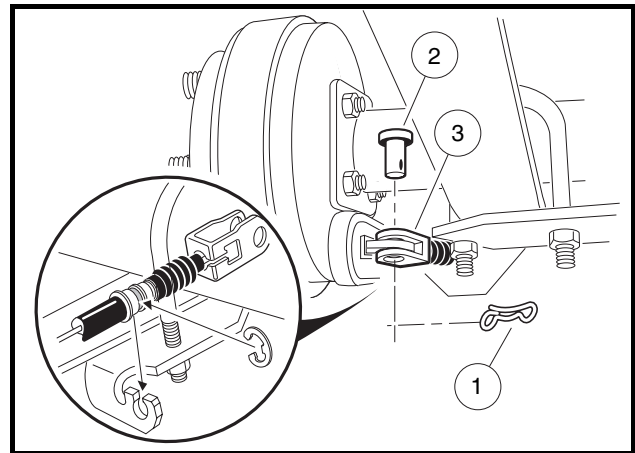
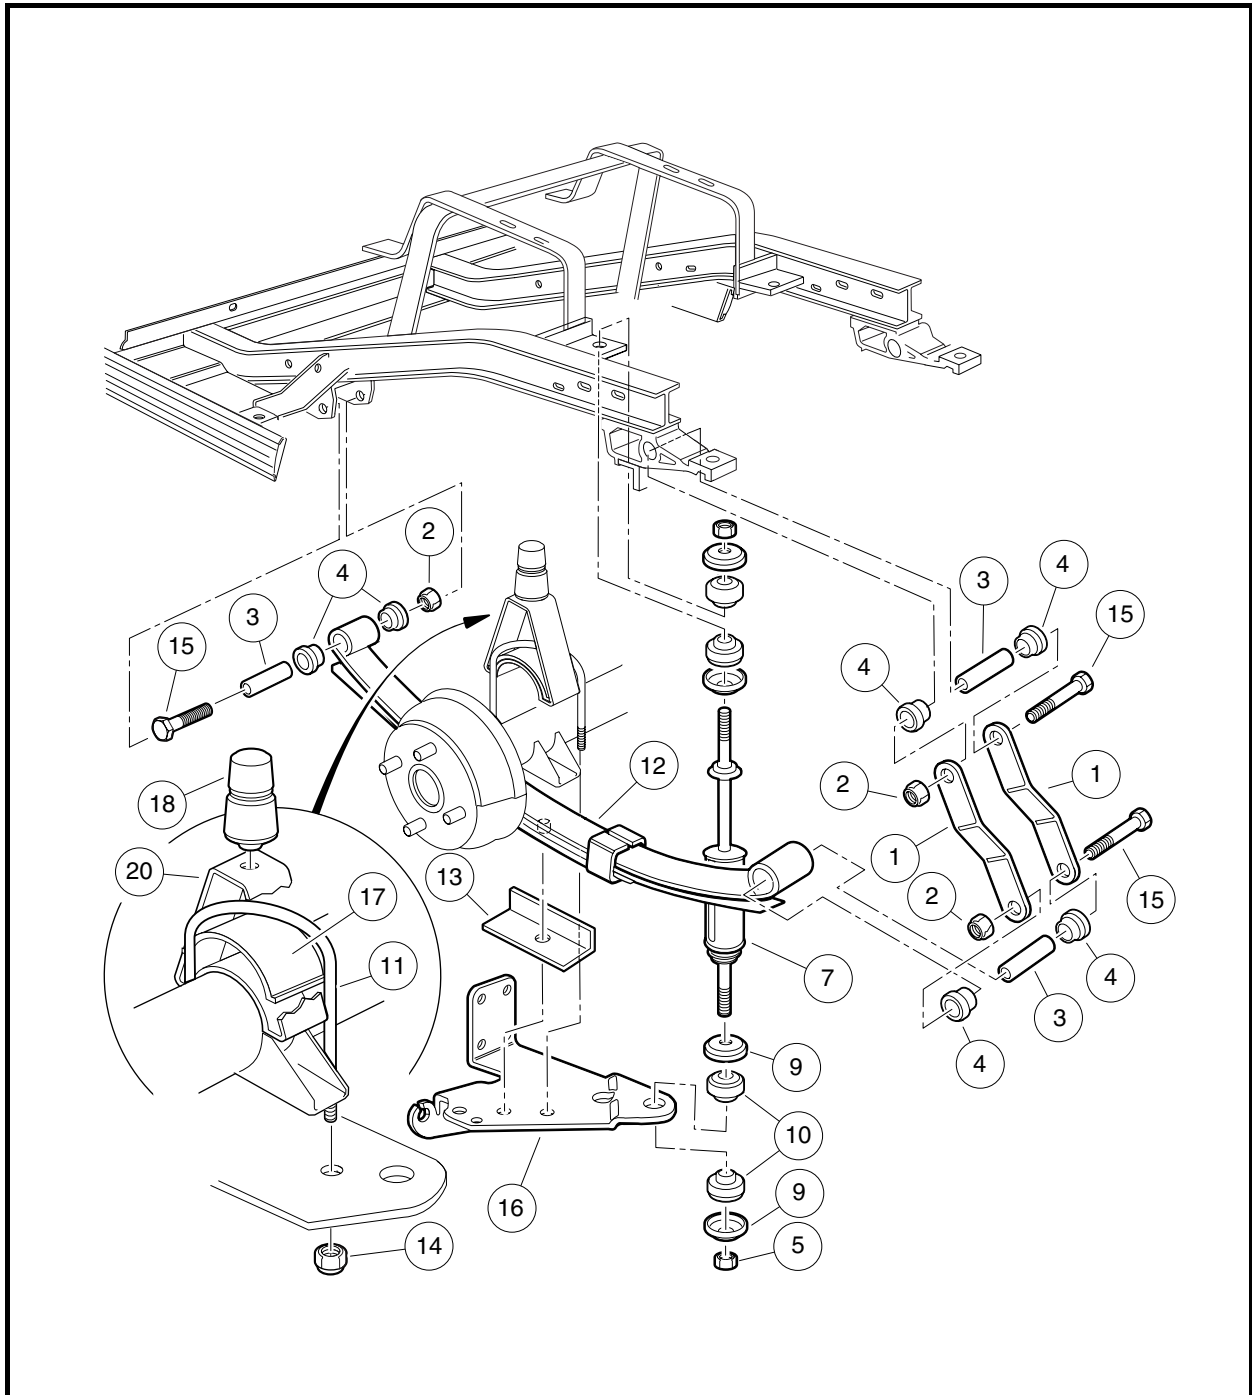
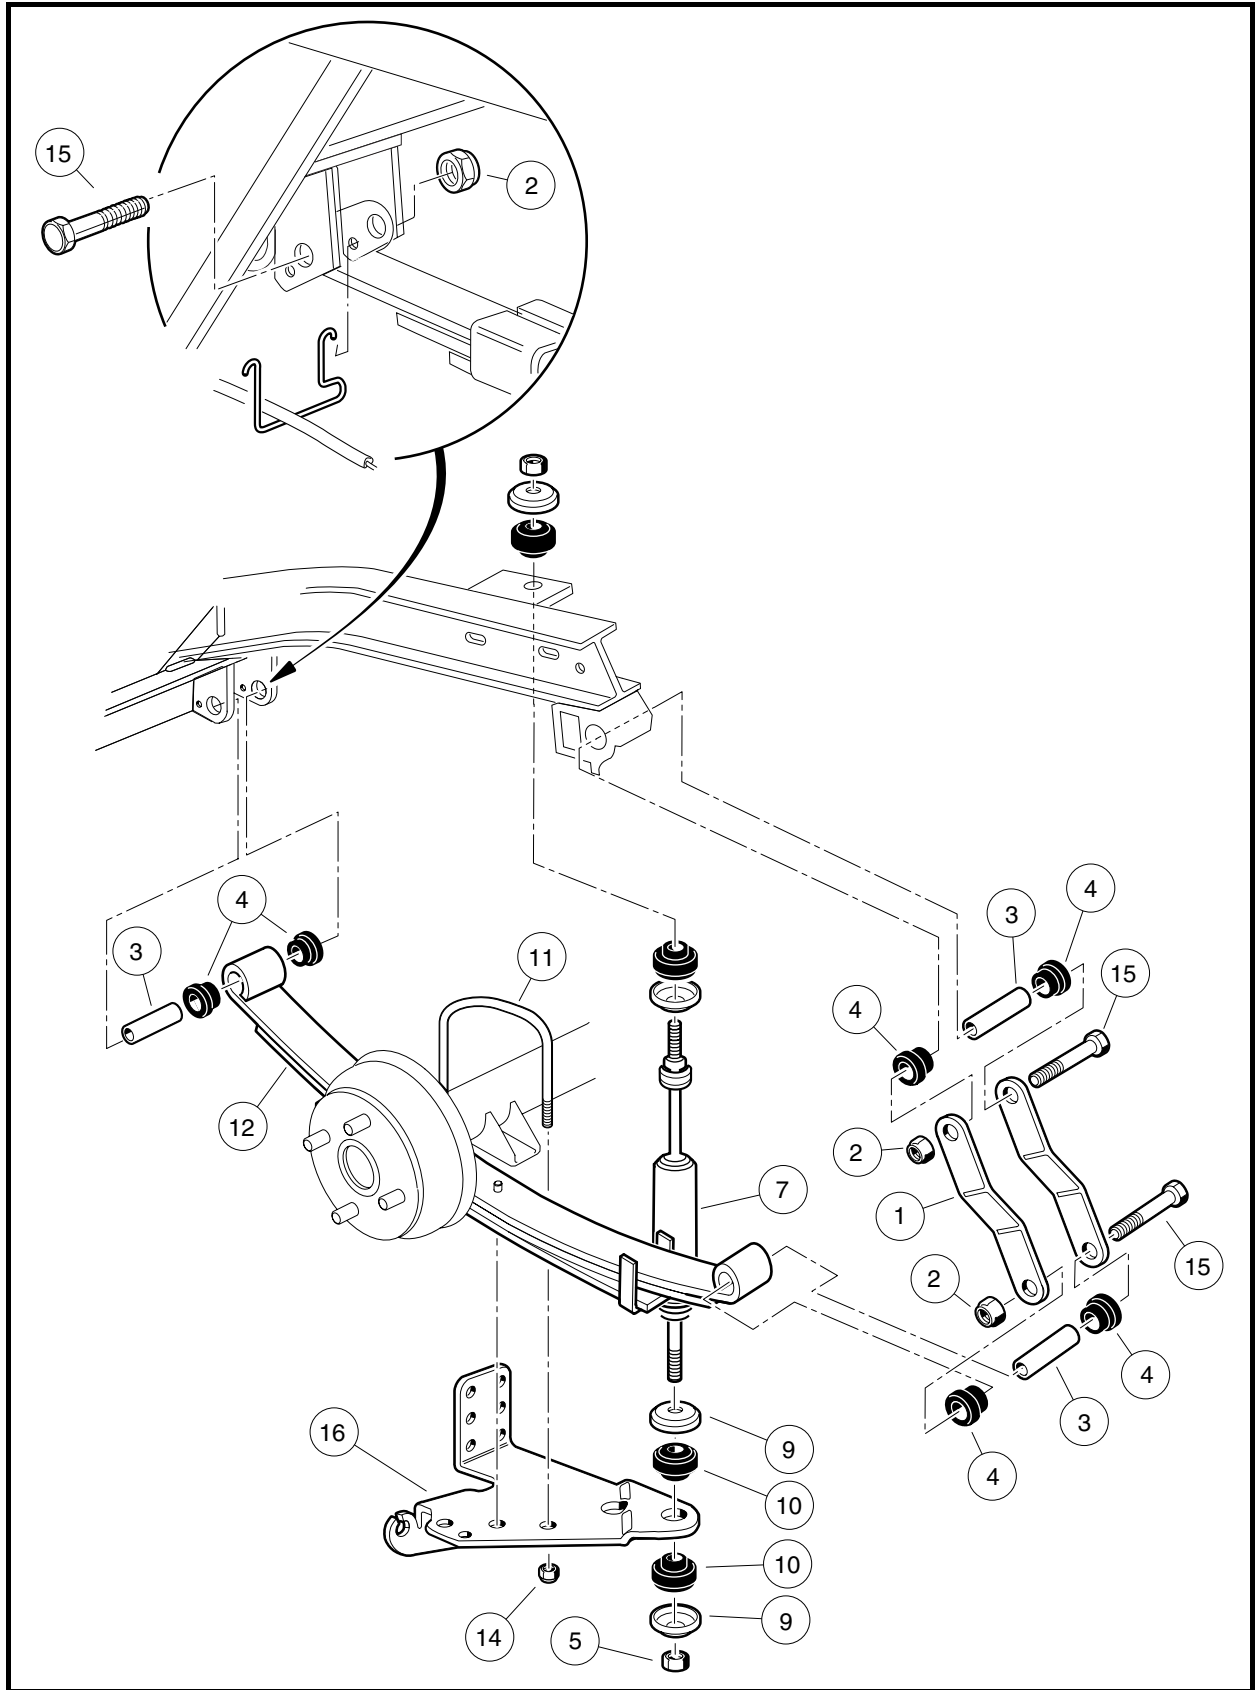
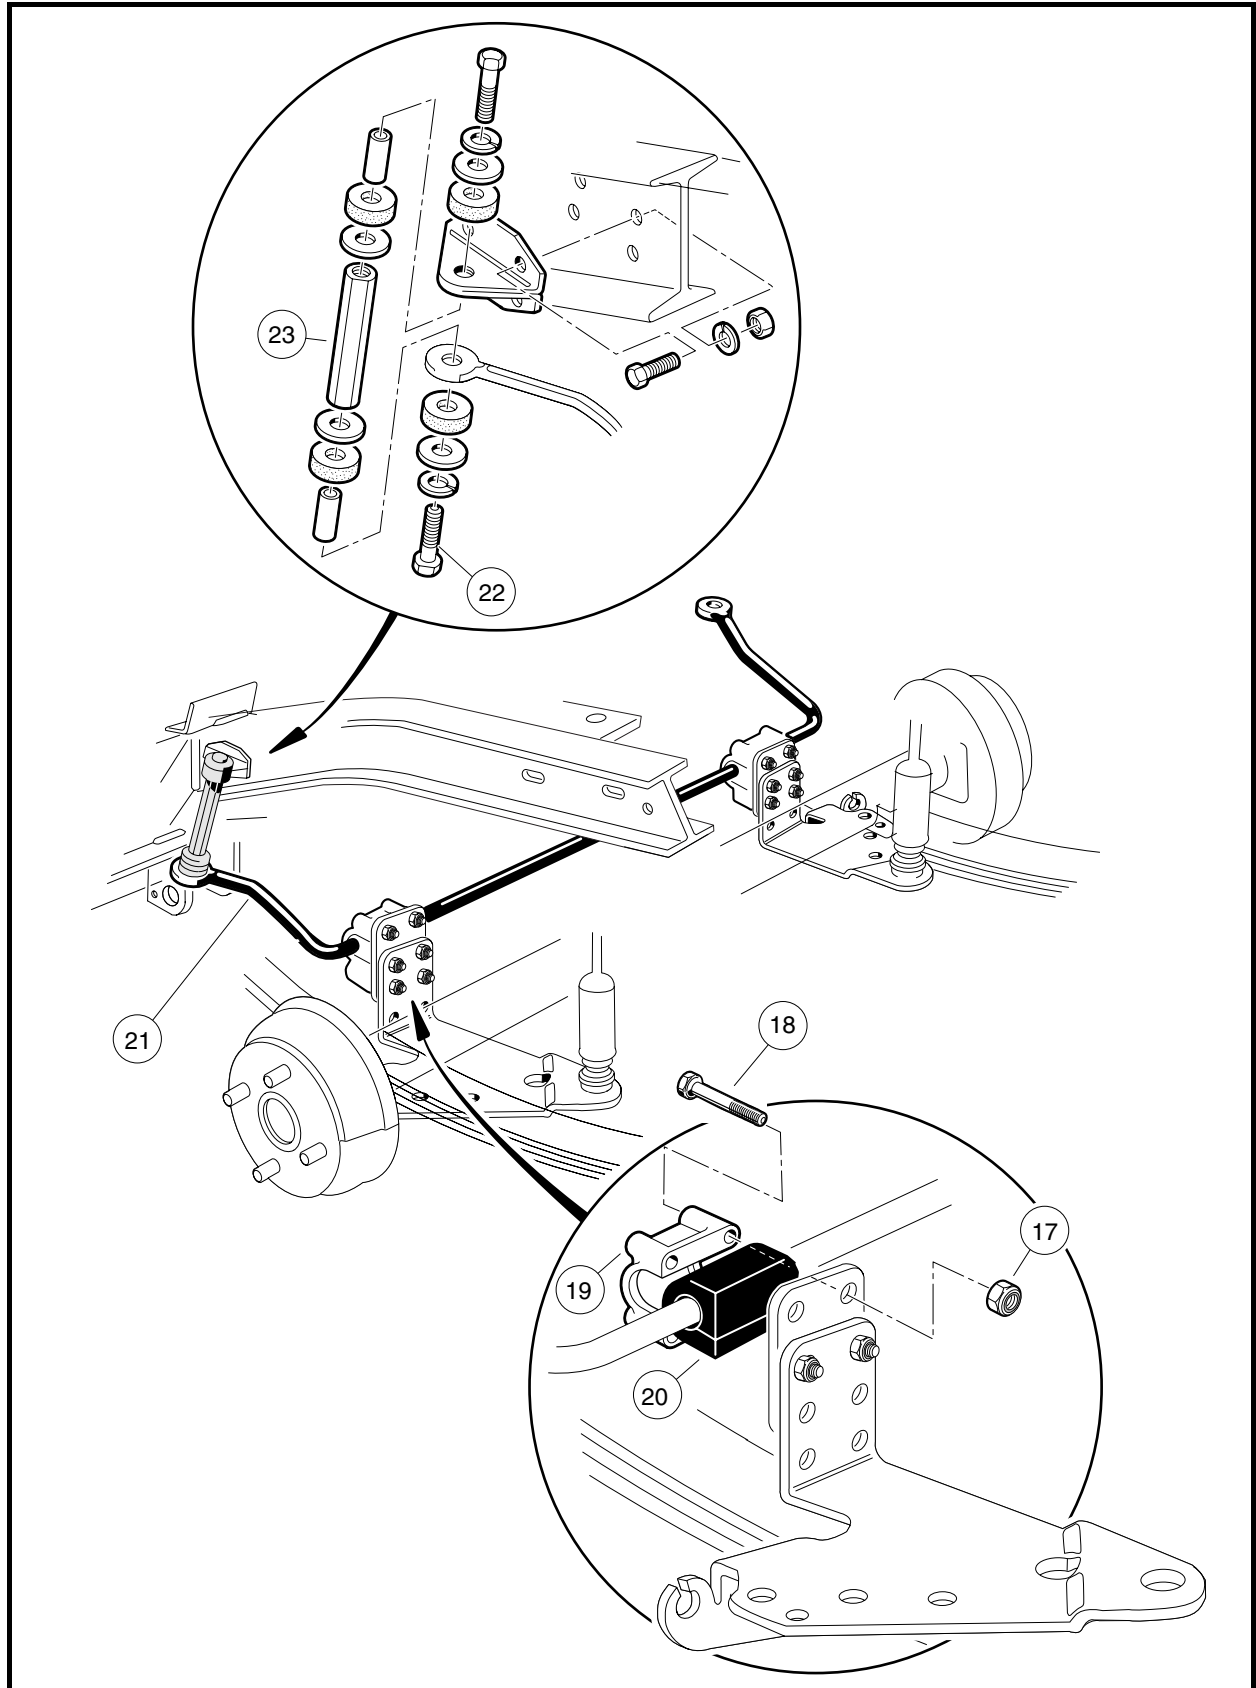

Figure 9-2 Disconnect Brake Cable
Figure 9-3 Rear Suspension Assembly and Mounting – 800 and 810
Figure 9-4 Rear Suspension Assembly and Mounting – 850
Figure 9-5 Rear Stabilizer Bar Mounting – 850
1. Check shock absorbers (7) for damage or fluid leakage at the point where the shaft enters the shock absorber body. Replace damaged or leaking shock absorbers (**Figure 9-3, Page 9-3 and Figure 9-4, Page 9-5**).
2. To remove a shock absorber, remove the nut (5), cup washers (9) and rubber bushings (10) from the stem at the top of the shock absorber.
3. Remove the nut (5), cup washers (9), and rubber bushings (10) from lower mounting stem.
4. Remove the bow-tie pin (1) and the clevis pin (2) at the brake lever and brake cable connection and pull the clevis (3) away from the lever (**Figure 9-2, Page 9-2**). Detach the brake cable from the shock mount bracket (16) (**Figure 9-3, Page 9-3 and Figure 9-4, Page 9-5**).
5. Remove the nut (5), cup washers (9), and rubber bushings (10) from the lower mounting stem of the shock absorber.
6. Remove the nuts (14) and the U-bolt (11) securing the spring to the jounce bumper bracket (20) and spacer (17) to the transaxle. Remove the shock mount bracket (16), angle bracket (13) and the U-bolt.
7. Remove the nut (2) and bolt (15) attaching the rear spring to the lower end of the shackle brackets (1).
8. Remove the nut (2) and bolt (15) attaching the front of the spring to the vehicle frame and remove the spring.
9. Inspect the bushings (4) and spacers (3) in the spring eyes and replace them if they are worn or damaged.
4. Remove the bow-tie pin (1) and the clevis pin (2) at the brake lever and brake cable connection and pull the clevis (3) away from the lever (**Figure 9-2, Page 9-2**). Detach the brake cable from the shock mount bracket (16) (**Figure 9-4, Page 9-5**).
6. Remove the nuts (17), bolts (18) and bushing support (19) attaching the rear stabilizer bar (21) to the shock mount bracket (**Figure 9-5, Page 9-6**).
7. Remove the nuts (14) and the U-bolt (11) securing the spring to the transaxle. Remove the shock mount bracket (16) and the U-bolt.
8. Remove the nut (2) and bolt (15) attaching the rear spring to the lower end of the shackle brackets (1).
9. Remove the nut (2) and bolt (15) attaching the front of the spring to the vehicle frame and remove the spring.
10. Inspect the bushings (4) and spacers (3) in the spring eyes and replace them if they are worn or damaged.
3. Tighten nylon lock nuts (2) on spring mounting bolts (15) to 27 ft-lb (36.6 N·m) (**Figure 9-3, Page 9-3**).
4. Tighten the nuts (5) until the rubber bushing (10) expands to the size of the cup washer (9).
3. Remove the nuts (17), bolts (18) and bushing support (19) attaching the rear stabilizer bar (21) to the shock mount bracket (**Figure 9-5, Page 9-6**).
4. Remove the bolts (22) attaching the ends of the rear stabilizer bar (21) to the links (23).